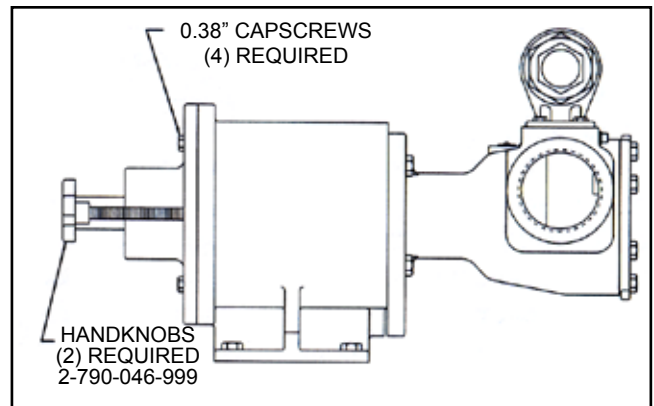

FIGURE 19
1. If the unit has a spacer coupling then the bracket of the mag coupling can stay bolted to base. Without the spacer coupling, either the reducer will need to be removed or the bracket unbolted. Remove the piping to the pump, provide a minimum of 4" of clearance beyond end of coupling shaft. Insert (2) 1/2" hand knobs which have a minimum of 4.5" of full threads into the two tapped holes at the 9:00 and 3:00 o'clock positions on the back of the bearing housing. Remove the (4) 0.38" capscrews. See Figure 19.